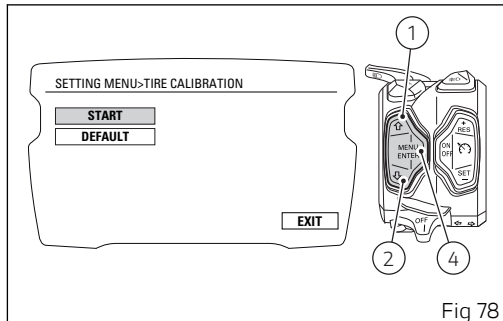

Fig 78
As you enter this function, the instrument panel displays the following indications (Fig 78):
To reset to the default settings, use buttons (1) and (2) to select "DEFAULT" (Fig 78) and press button (4). Then, the instrument panel shows "DEFAULT PLEASE WAIT..." (Fig 84) and after a while "DEFAULT OK" (Fig 85) for 2 seconds, then followed by the previous screen.